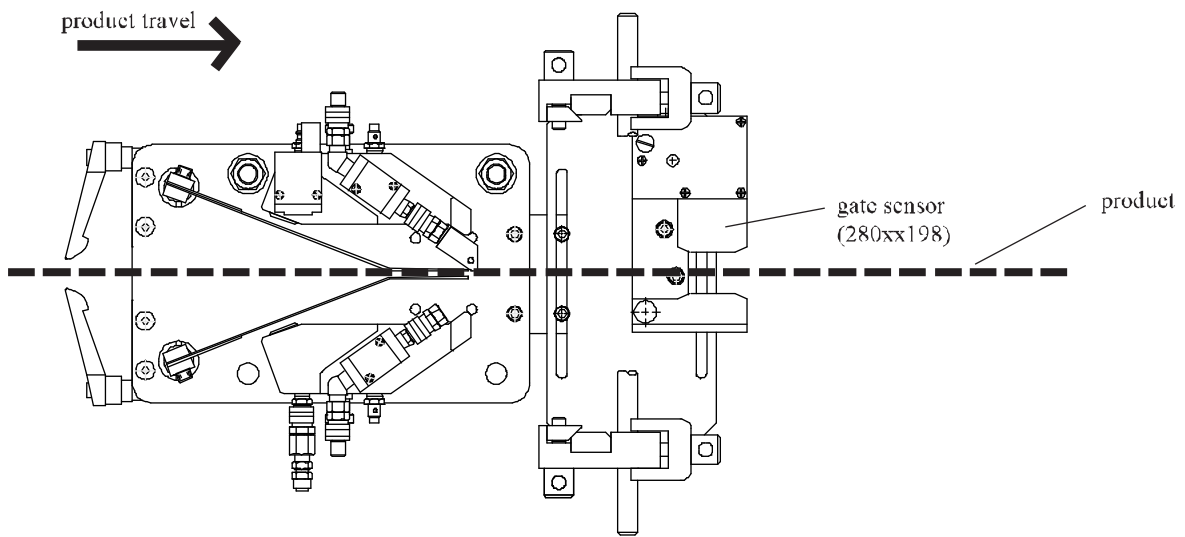
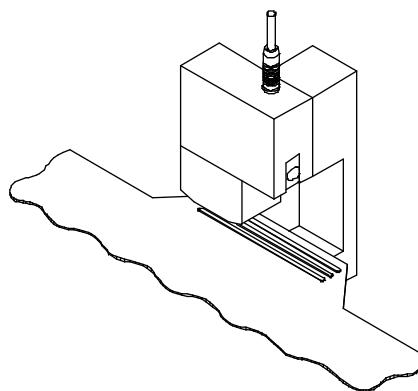

Figure 5-24. Mounting Position for Tab-Side Sensor
Figure 5-26. Correct Position of Glue Line Under Sensor
- Tab-side version (280xx198) (Figure 5-24)
Note! The product must run in the middle of the sensing areas (Figures 5-24 and 5-25) and the glue bead must be under the sensing areas (Figure 5-26).